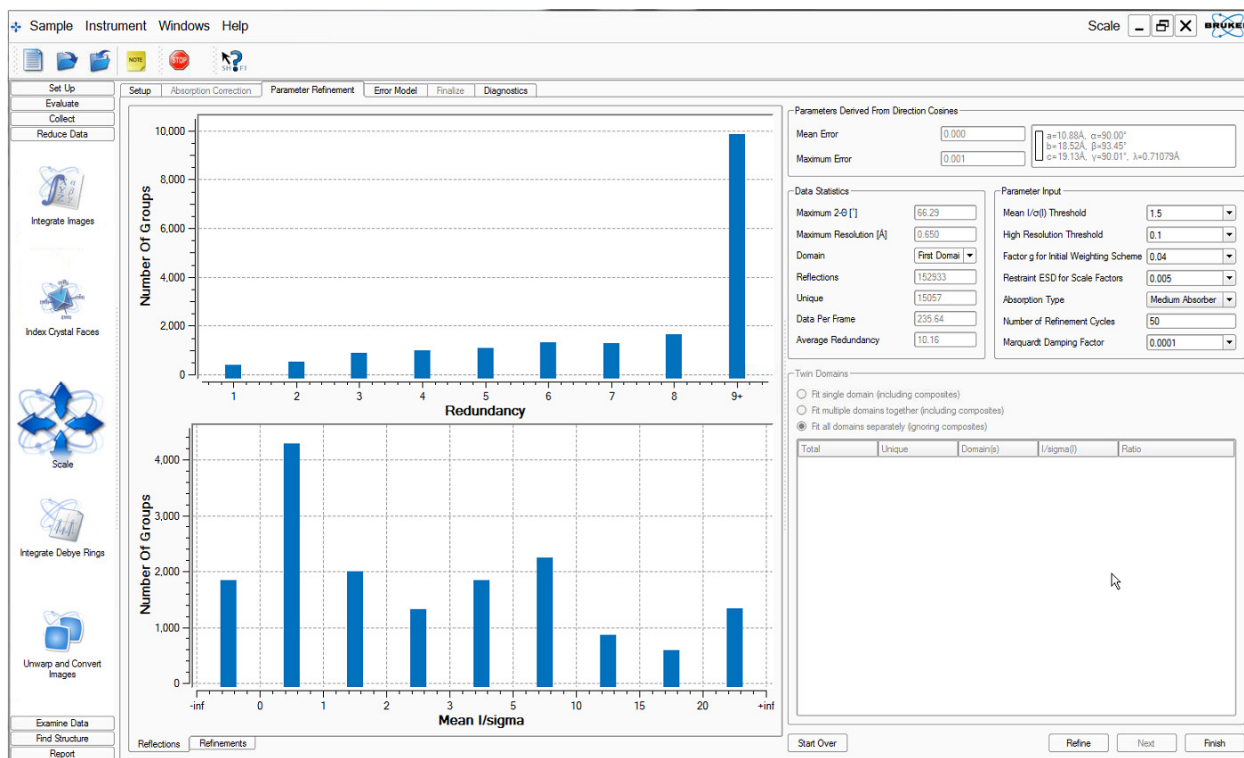

Figure 24, Absorption Correction window (second Scale Window) before refinement
- The refinement window will open (Fig. 24). An average redundancy of around 3.0 is usually sufficient for weak to medium absorbing samples. For oddly shaped and heavily absorbing samples a higher redundancy is required.